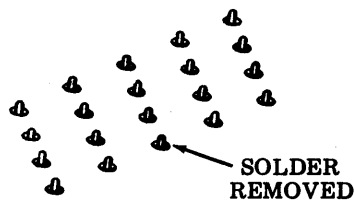

Fig. 15—Connector Pins
- (c) Remove solder from around connector pins of cable to be removed (Fig. 15).